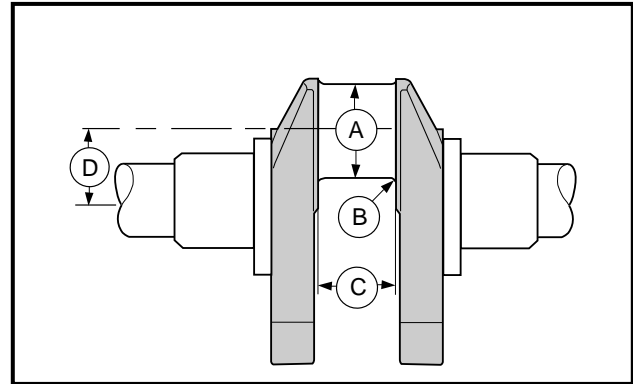

Figure 13-87 Undersized Connecting Rod Journal
1. Have a reliable repair shop grind the crankshaft journal (A) (**Figure 13-87, Page 13-40**).
2. The final finishing dimensions are as follows (**Figure 13-87, Page 13-40**):
- (A) 1.4759 - 1.4763 inches (37.489 - 37.500 mm)
- (B) 0.110 - 0.126 inch (2.80 - 3.20 mm)
- (C) 1.1968 inches maximum (30.4 mm)
- (D) 1.2775 - 1.2814 inches (32.45 - 32.55 mm)
3. The connecting rod journal (A) must be concentric and cylindrical within 0.0002 inch (0.005 mm) at full indicator reading (**Figure 13-87, Page 13-40**).